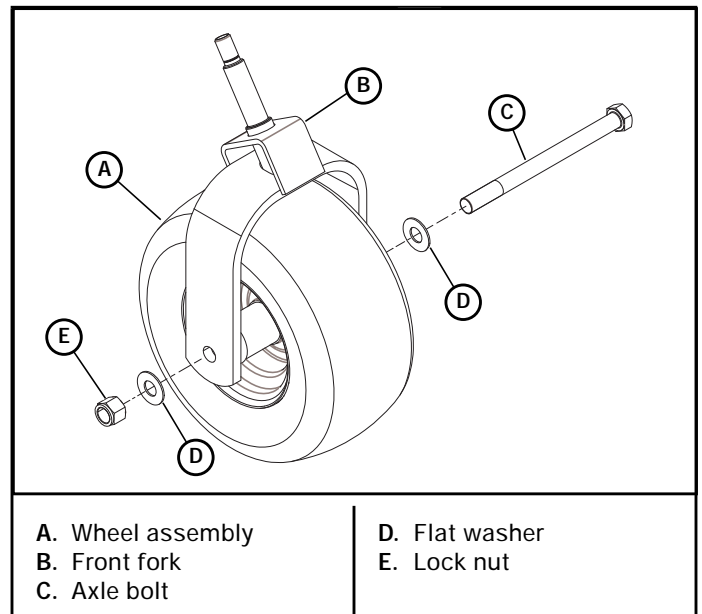

Figure 4-23
7. Slide the wheel assembly between the caster fork legs and assemble to the fork using the axle bolt, flat washers, and lock nut. Figure 4-23